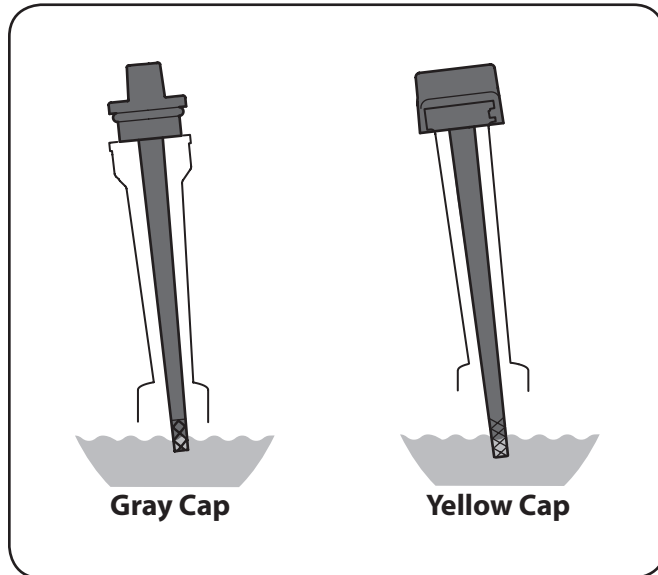

Figure 3-3
2. Insert the cap/dipstick into the oil filler neck, but do not screw it in. See Figure 3-3.
2. Insert the dipstick into the oil filler neck. Turn the dipstick a 1/4 turn into the locked position to fully seat. See Figure 3-3.